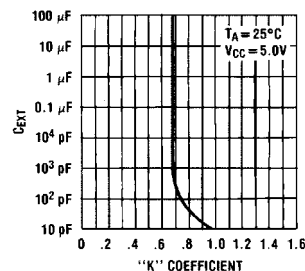

FIGURE 5.
- The "K" coefficient is not a constant, but varies as a function of the timing capacitor CX. Figure 5 details this characteristic.
- Under any operating condition CX and RX must be kept as close to the one-shot device pins as possible to minimize stray capacitance, to reduce noise pick-up, and to reduce |X R and L di/dt voltage developed along their connecting paths. If the lead length from CX to pins (10) and (11) is greater than 3 cm, for example, the output pulse width might be quite different from values predicted from the appropriate equations. A non-inductive and low capacitive path is necessary to ensure complete discharge of CX in each cycle of its operation so that the output pulse width will be accurate.